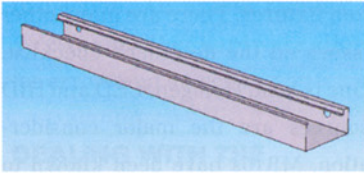

Figure 2.
**Sheet metal—formed:** This is the basic unit of fixture design. Inexpensive to work with, it bends, curves, is easy to drill through and can be cut into oddball shapes (Figure 2). Anything attached to the inside of a sheet metal part is visible to the outside including weld marks. Ninety-six inches is the longest practical length. Common use is for strips, wraparounds and fluorescent reflectors.